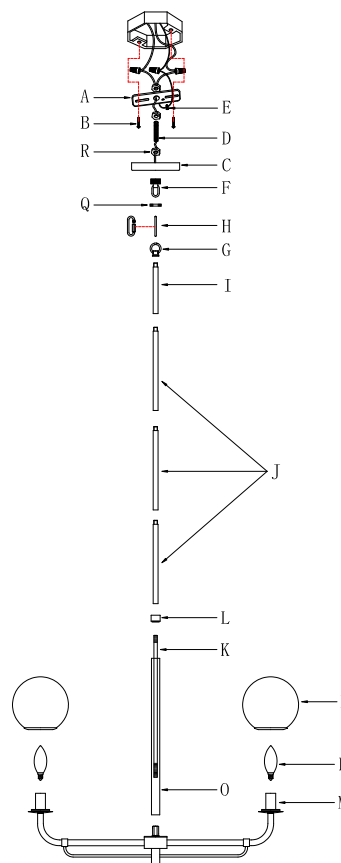

Fig. 2
CONNECTING THE WIRES (Fig. 2)
7. Connect electrical wires as shown in Fig.2, making sure that all wire connectors are secured. If your junction box has a ground wire (green or bare copper), connect fixture's ground wire to it. Otherwise, connect ground wire directly to crossbar (A) using green screw (E) provided.